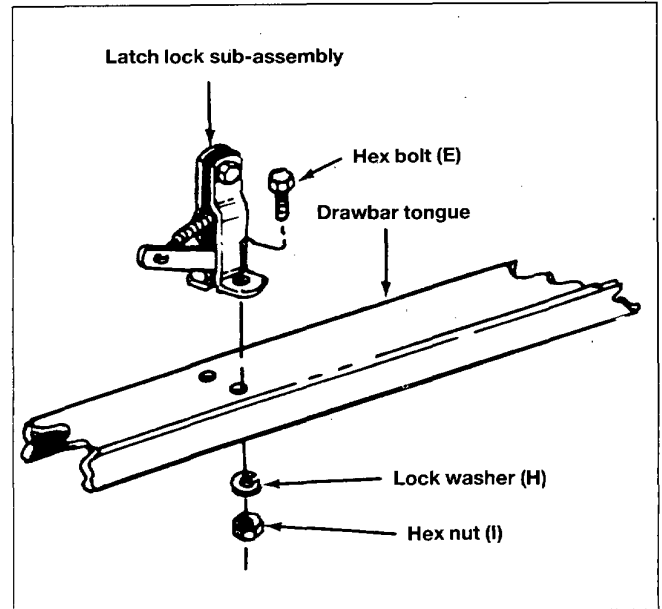

Fig. 13
18. Assemble latch lock sub-assembly to draw bartongue using 1/4" x 5/8 (6 x 16 mm) long hex bolt (E), lock washers (H) and hex nuts (I). See figure 13.